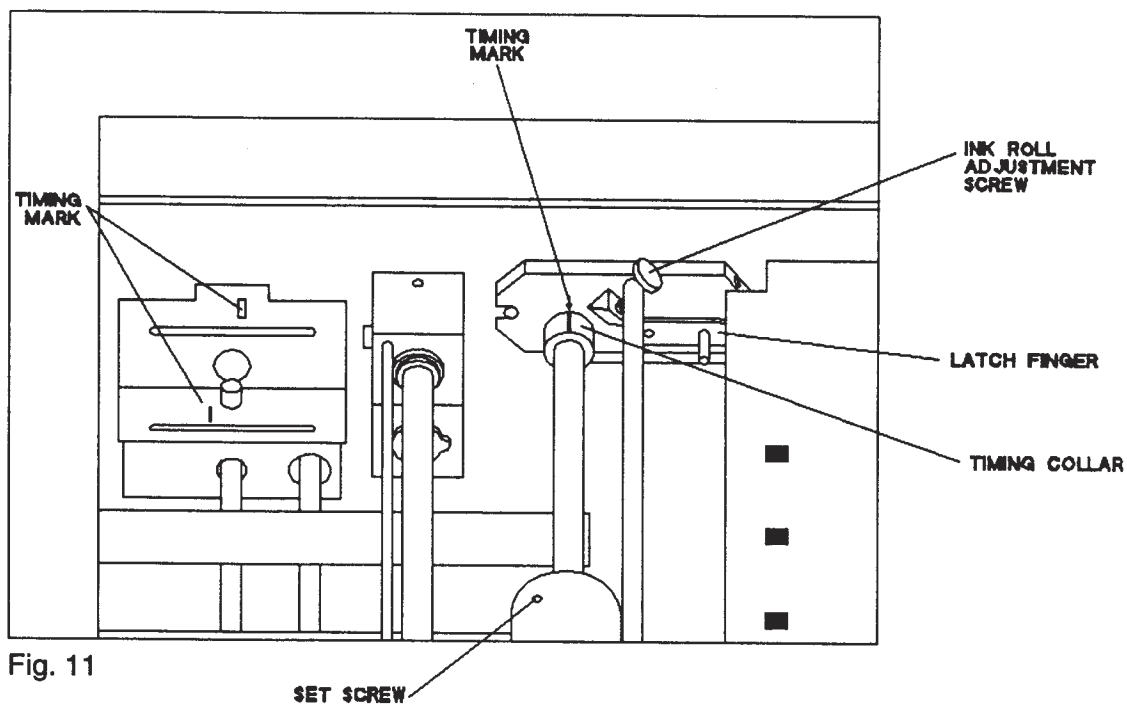

Fig. 11
6. Loosen setscrews on imprint cylinder. (if setscrews are not in view, use jog switch to bring them into view. Fig. 11)
9. Advance forms forward so that next horizontal perforation aligns at top edge of plastic tractor or alignment mark on metal tractor. (Fig. 11)
10. Move timing collar so that mark on collar aligns with mark on side frame. Tighten setscrews. (Fig. 11)
NOTE: The signature saddle has been factory adjusted to fit a .092 thick signature patch. If adjustment is required to lower or raise the height of signature saddle for a different signature patch thickness, release imprinter side plates from their locked positions. Pull back latch finger to release plates. (Fig. 11)
1. Jog machine forward until timing collar mark is aligned with side panel mark. (Fig. 11)